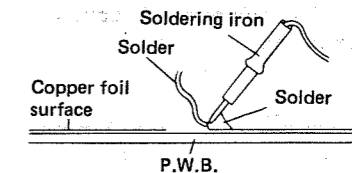

Figure 23-3
- Temporarily solder one terminal of the chip on the copper foil surface. See Fig. 23-3.